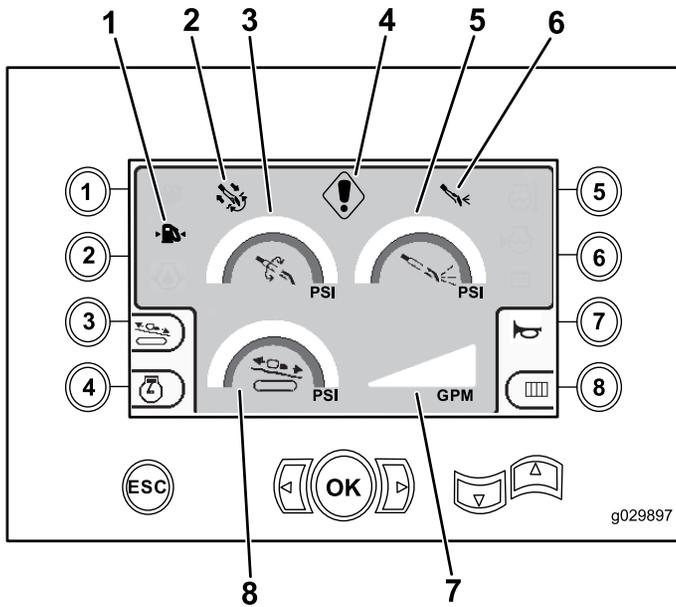

Figure 2
This screen provides measurements on rotary pressure in psi, drilling-fluid pressure in psi, carriage pressure in psi, and drilling-fluid flow rate in gpm (Figure 2).
- Drilling and/or engine-fault code warning (Figure 2)
- Low-fuel warning (Figure 2)
- Drilling fluid is in the ON position (Figure 2)
- Auto drill is in the ON position (Figure 2)